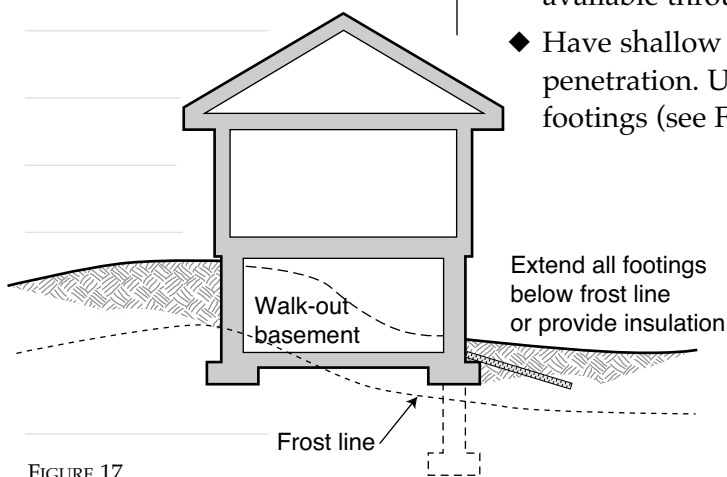

FIGURE 17
- ◆ All footings, including those supporting garages and those below basement walk-outs, must be maintained below the depth of frost penetration. Information on the local depth of frost penetration is available through municipal building departments (see Figure 17).